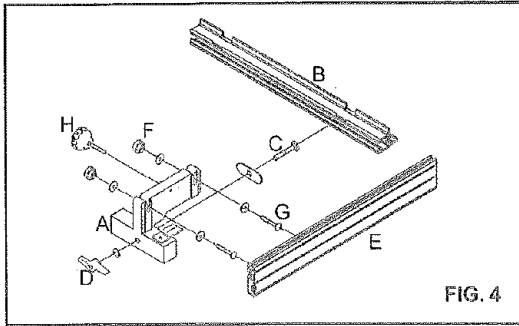

FIG. 4
e. To assemble the rip fence, take the fence carrier(A) and attach it to the guide rail(B) using the M8x50 carriage bolt(C) and the wing nut(D). Fit the fence(E) to the fence carrier with the two knurled nuts(F) and M6x40 carriage bolts(G) and use the fence adjusting knob(H) for adjustment and to lock in position.(See FIG.4)